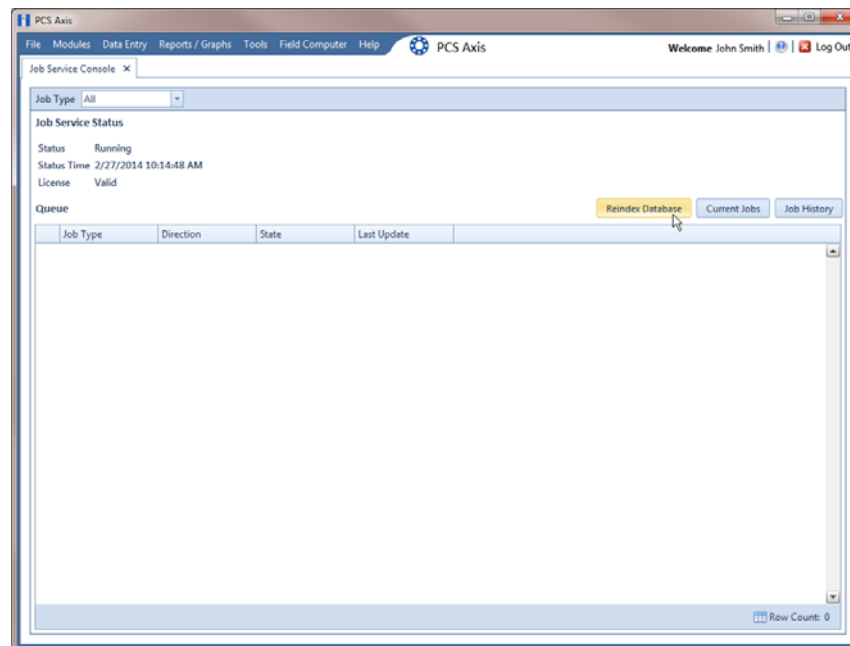

Figure 18-3. Job Service Console
- 1 Click **Tools** > **Job Service Viewer** to open the *Job Service Console* window (Figure 18-3).